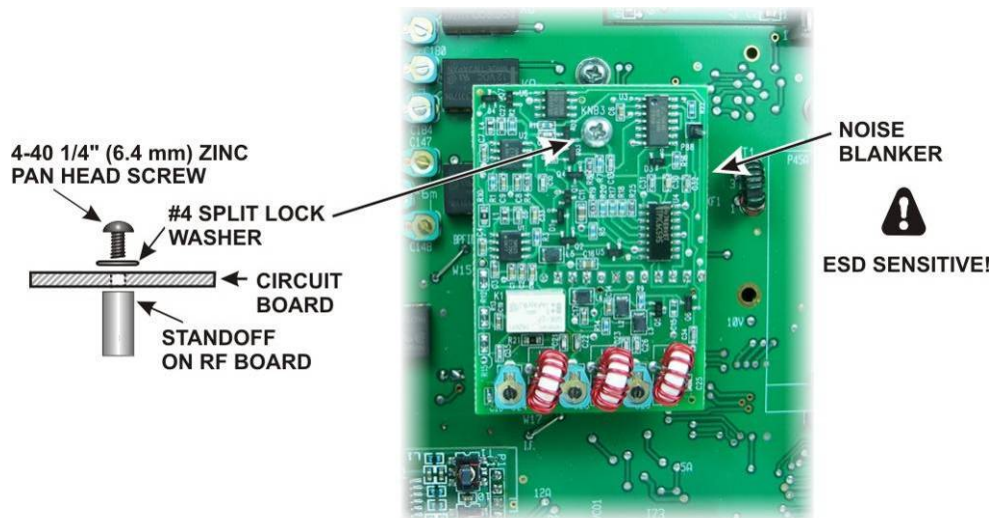

Figure 89. Installing the Noise Blanker Board.
- ☐ Plug the noise blanker board into J77 and attach it to the standoff using the hardware shown in Figure 89.